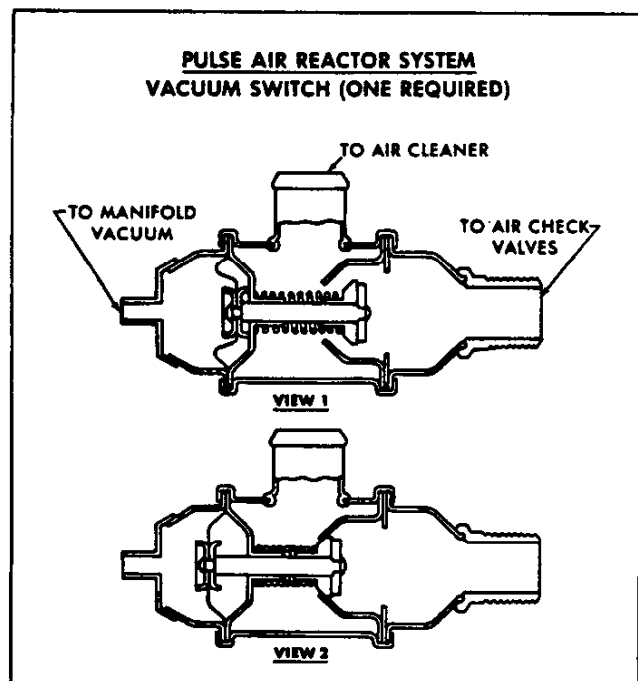

Figure 3a — Pulse Air Shut Off Valve
3. An override feature to shut off fresh air flow during engine overrun is also included to prevent exhaust after fire (fig. 3a, View 2). Throttle closure at the beginning of deceleration temporarily creates fuel air mixtures which are too rich to burn. These mixtures would become burnable when combined with fresh air. The next firing of the engine would ignite this mixture causing an exhaust explosion. Momentary diverting of the pulse air from the exhaust prevents this from occurring. This is accomplished by applying manifold vacuum to a diaphragm which closes a valve. A spring is used to hold the valve open during idle, part throttle, and wide